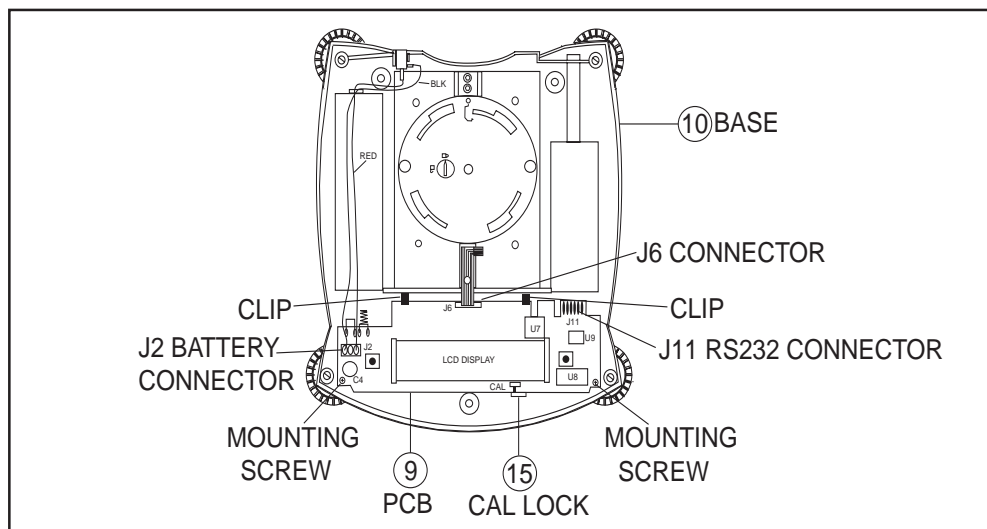

Figure 3-3. Printed Circuit Board Removal.
2. The Printed Circuit Board (9) is fastened in place by 2 clips which are part of the Base (10) and 2 screws located on top of the Printed Circuit Board. In addition, a Calibration Lock (15)(small plastic piece) is positioned at the front of the Printed Circuit Board. See Figure 3-3.